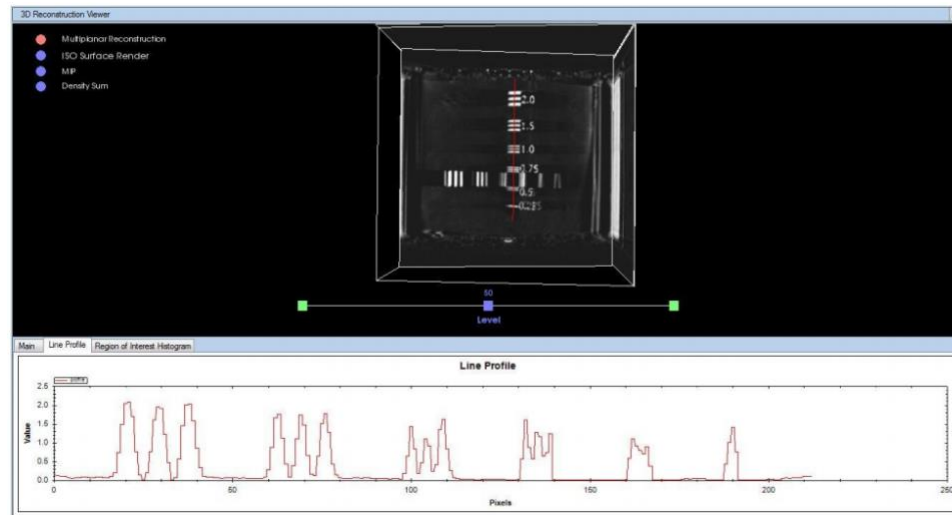

Figure 3: Line Profile through Line Pair Phantom in CT reconstruction.
13. Use the Line Profile tool again (Figure 3) and Export Data as CSV file (LP CT High Res).